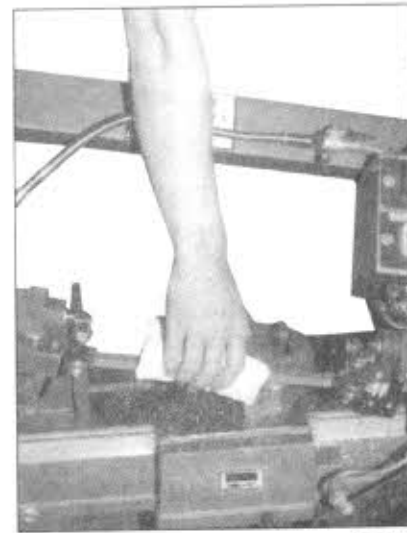

Fig.15
4. Turn nut (B) to adjust eccentric bearing snug to the blade. Blade should still move up and down freely when grasped as in Fig. 15.